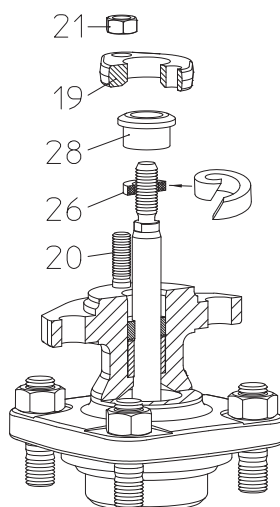
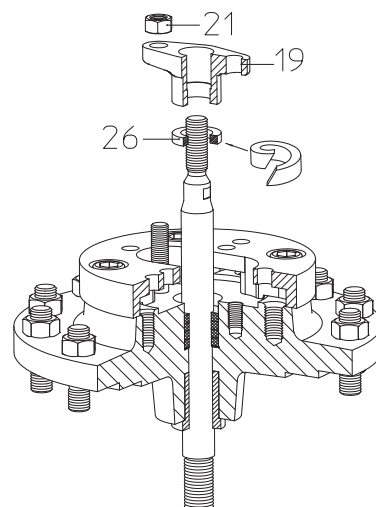

Fig. 12: Stuffing box packing DN15-150
Fig. 13: Stuffing box packing DN125v-150v
**Refer to item 11.0 and 12.0 before dismantling the valve.**
- Insert the new packing ring (pos. 26) as shown in Fig. 12 and Fig. 13.